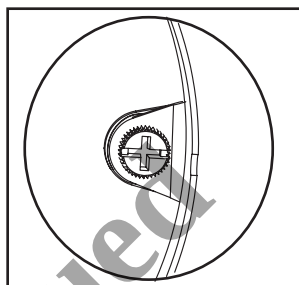
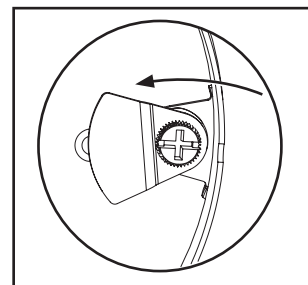

Figure 22.
Figure 23.
5. Disengage the retainer (Figure 22.) by rotating past the tabs (Figure 23.).